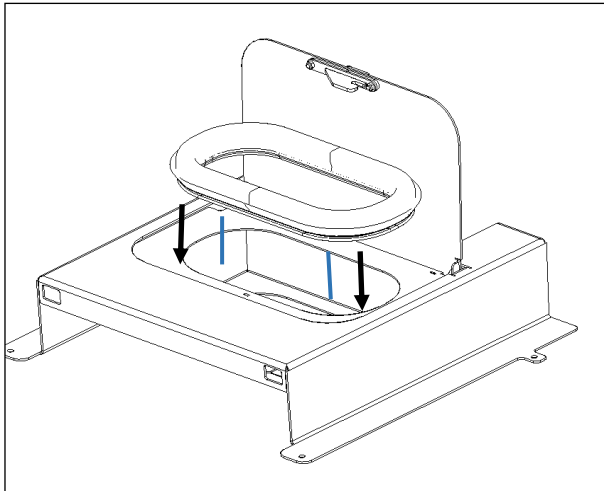

Figure 53 - Placement of the rubber seal on the top cover
d) Insert the rubber seal, removed from indent c on the top cover of kit 1, as shown in Figure 53.